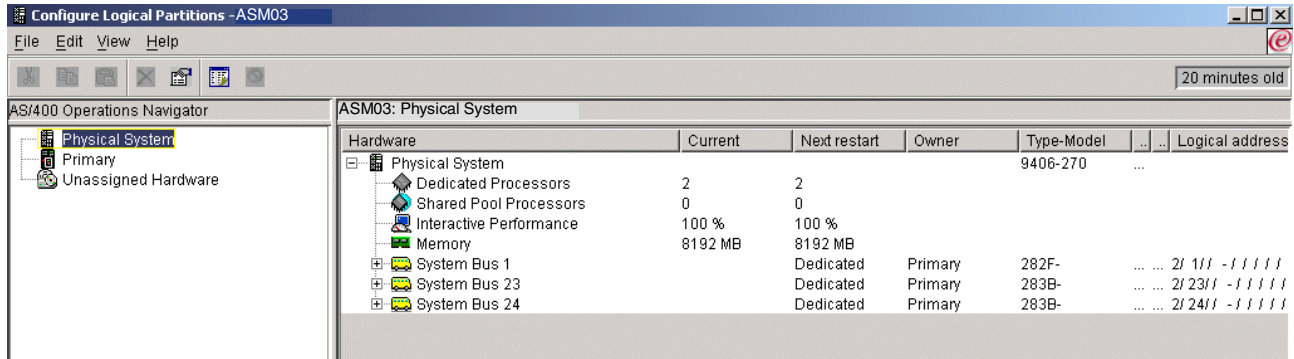

Figure 4-1 Configure Logical Partitions main window
5. Right-click **Systems with Partitions** and select **Configure Partitions**. This opens the Configure Logical Partitions window as shown in Figure 4-1.